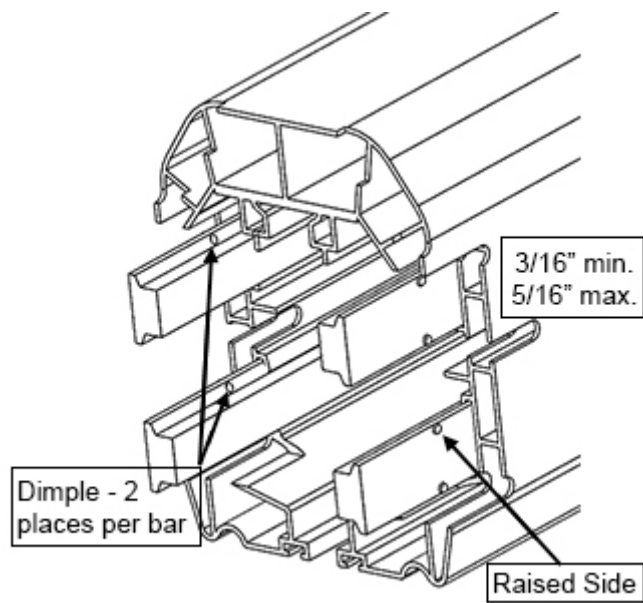

Figure 38: Conductor Placement (200 A)
5. Push the conductor bars back in as far as they will go, measure 1/4" from the cut PVC edge, and dimple the bar with a punch or chisel so that the flat part of the bar is raised at least 1/16" (Figure 38). The conductors should have 3/16"-5/16" play inside the extrusion when this is done, and should not be able to pull inside the extrusion.
6. Trim excess bar leaving a 1" tab (Figure 38). Make sure that the excess fits properly under the end cover.